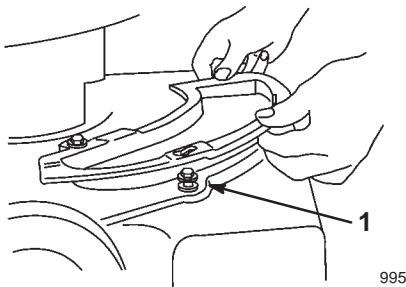

Figure 42
5. Slide the cover plate over the shoulder bolts (Fig. 42).